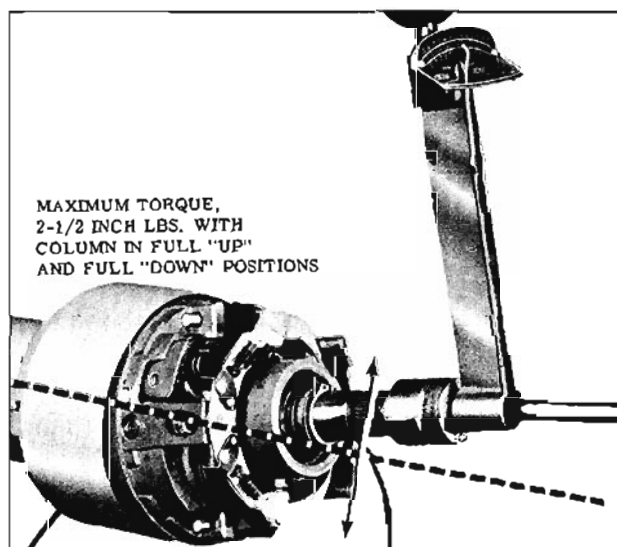

Fig. 8-117 Checking Steering Shaft Torque
2. Check the torque of the steering shaft by installing a 3/4" 12-point socket and using an in. lb. torque wrench. (Fig. 8-117) The shaft should rotate with the column in the full up position and the full down position with a